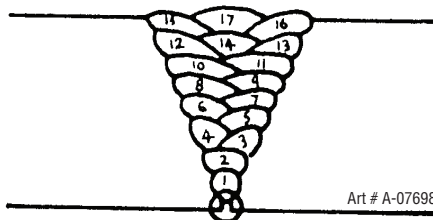

Figure 4-14: Weld build up sequence
A piece of angle iron is a suitable specimen with which to begin, or two lengths of strip steel may be tacked together at right angles. Using a 3.2mm (1/8") E7014 electrode at 120 amps, position angle iron with one leg horizontal and the other vertical. This is known as a horizontal-vertical (HV) fillet. Strike the arc and immediately bring the electrode to a position perpendicular to the line of the fillet and about 45° from the vertical. Some electrodes require to be sloped about 20° away from the perpendicular position to prevent slag from running ahead of the weld. Refer to Figure 4-14. Do not attempt to build up much larger than 6.4mm (1/4") width with a 3.2mm (1/8") electrode, otherwise the weld metal tends to sag towards the base, and undercut forms on the vertical leg. Multi-runs can be made as shown in Figure 4-15. Weaving in HV fillet welds is undesirable.